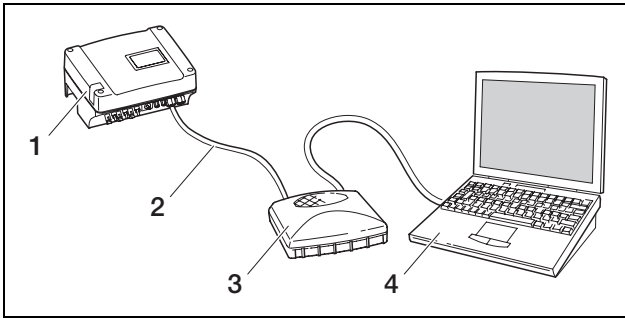

Fig. 22: Connecting inverter and computer with Ethernet cables and switch
- a) via a local network (switch and Ethernet cable, see figure 22), or